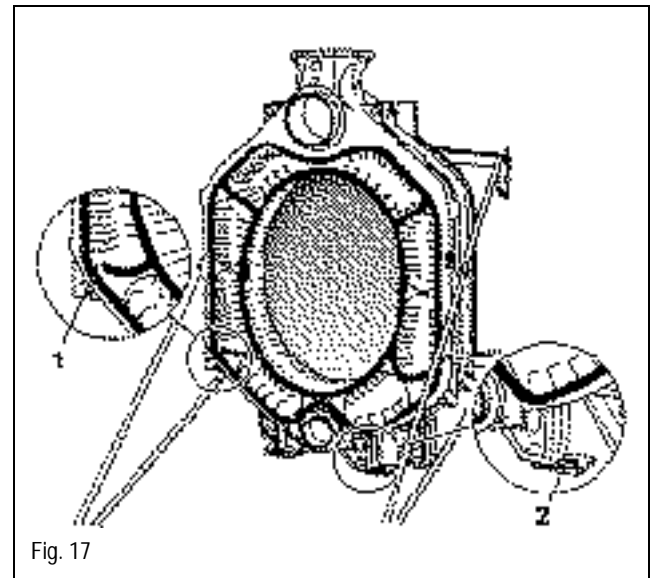

Fig. 17
Fig. 17 shows the intermediate section with supply connection. Prepare nipple ports and sealing grooves and install pushnipples and sealing cord. Again, leave a small opening between the sealing cords at location (1), Fig. 17.